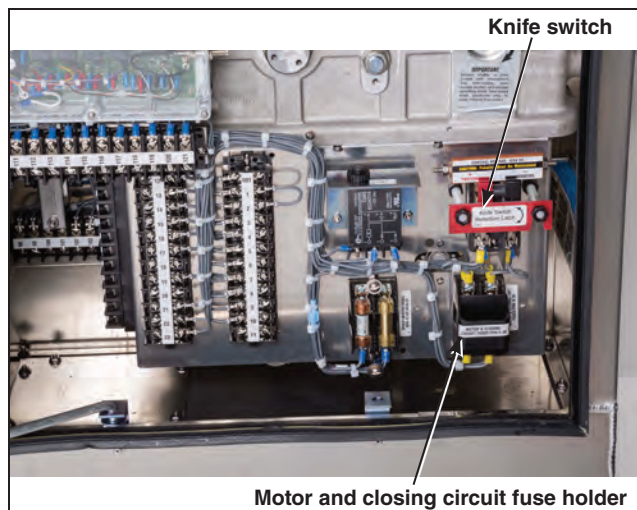

Figure 29. Motor and closing circuit fuse holders. Control source knife switch.
- Correct polarity has been observed on dc-control-voltage models (see Figure 29)
STEP 26. Insert the motor and closing circuit fuseholder, and then close the control-source disconnect knife switch. See Figure 29.